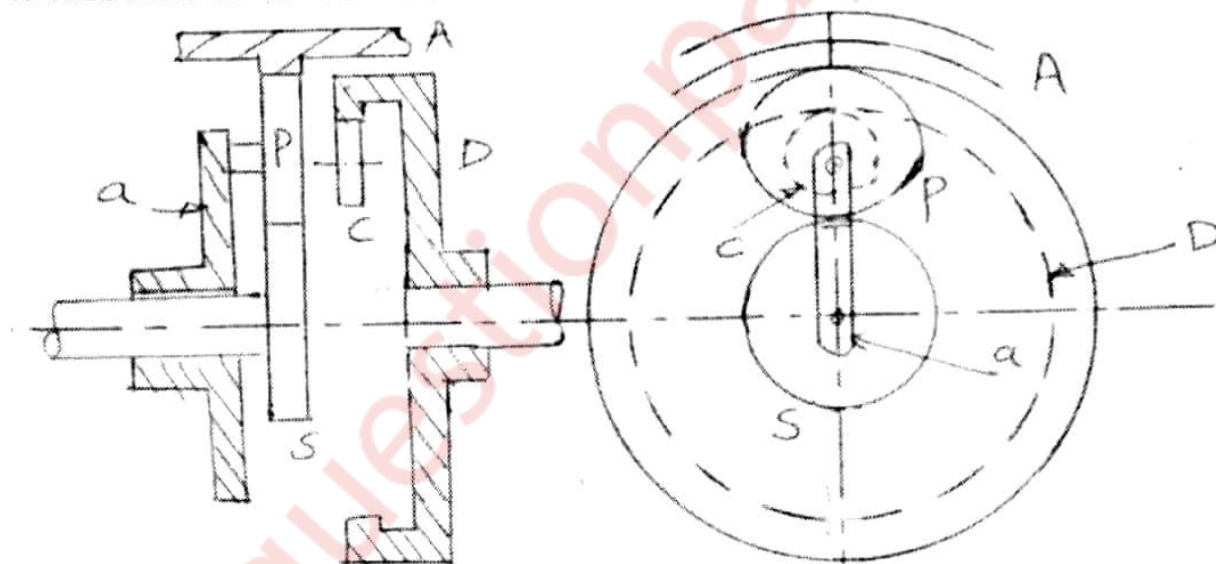

Fig. 1 Reduction Gear Mechanism
Q 4) A) In a reduction gear shown in fig. 1, the input S has 24 teeth. P and C constitute a compound planet having 30 and 18 teeth respectively. If all gears are of the same pitch, find ratio of reduction gear. Assume A to be fixed. (10)